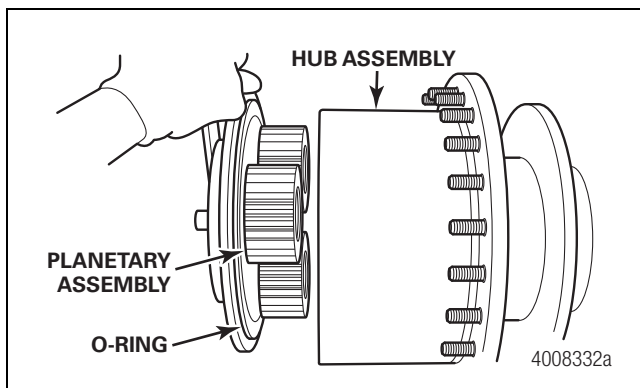

Figure 15.9
15. Install the planetary assembly into the hub. Figure 15.9.